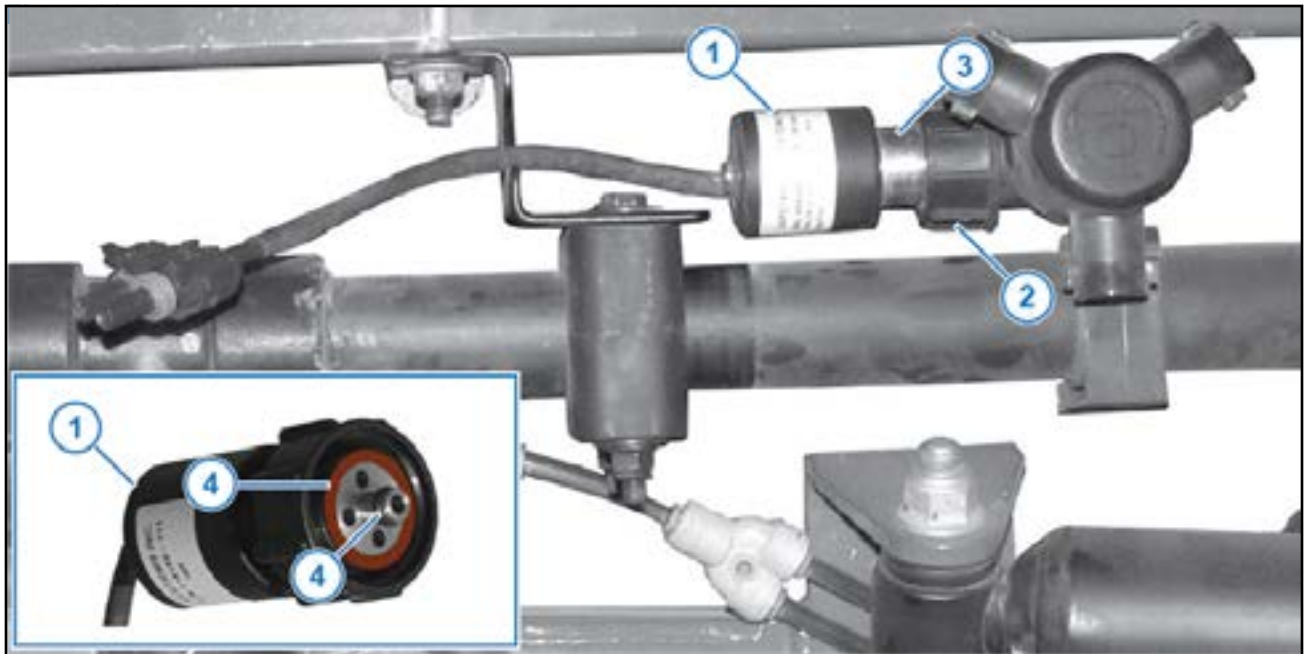

Figure 32: Nozzle Valve Leaks
18. If the coil housing (Figure 32, Item 1) spins, tighten the fly nut (Figure 32, Item 2) until the coil housing does not spin.
19. If the coil housing does not spin, remove the nozzle valve (Figure 32, Item 3).
20. Inspect the O-rings (Figure 32, Item 4). If an O-ring is damaged, replace the O-ring.
6. Deselect the **KEY FOB** icon (Figure 32, Item 1).